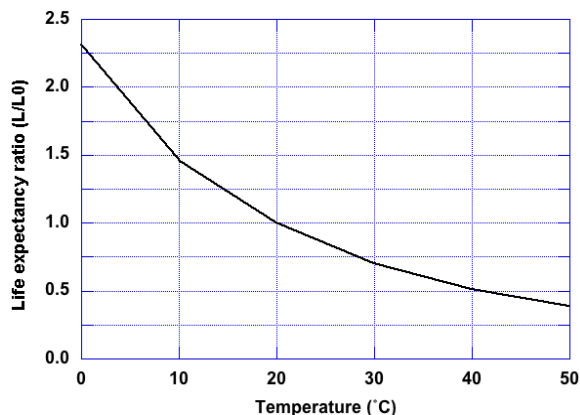

Fig. 8b - Relationship of life expectancy vs. temperature (L0 = life at 20°C)
Figure 8b shows the relationship between life expectancy and ambient temperature. The Y-axis indicates the ratio of life expectancy at a given temperature (L) compared to life expectancy at 20°C (L0). A correlation exists between the sensor's life time and its storage temperature—the life time becomes shorter as the storage temperature increases.